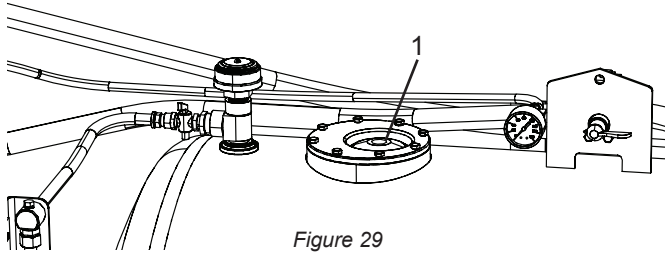

Figure 29
2. Place the water supply hose in the water tank flopper valve (Figure 29, Item 1) and fill the tank.